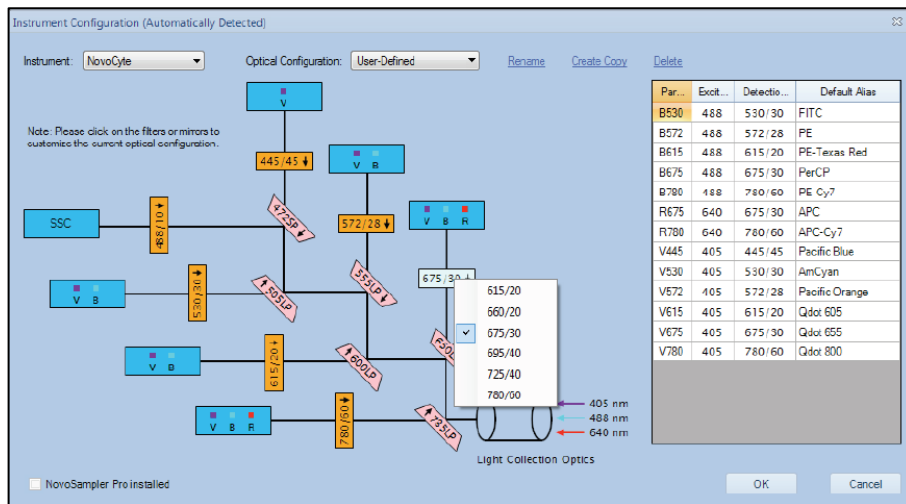

Figure 29. Instrument Configuration Window
- 3 If optical configurations other than the ones listed by the software are needed (i.e. users need create their own customized configuration), the **Customize Optical Configuration** in the **Access Privilege** window for the current user account needs to be enabled first as described in NovoExpress Software Guide. To make the customized optical configuration, click **Create Copy** in the **Instrument Configuration** window (Figure 29) to generate an editable copy of the configuration. Click **Rename** to rename the configuration if needed. Click the bandpass filter or dichroic mirror to be replaced and select the appropriate filter or mirror from the pop-up list. Once all the filters and mirrors desired to be replaced have been edited, click **OK** to continue. A customized optical configuration can also be deleted by clicking **Delete**.